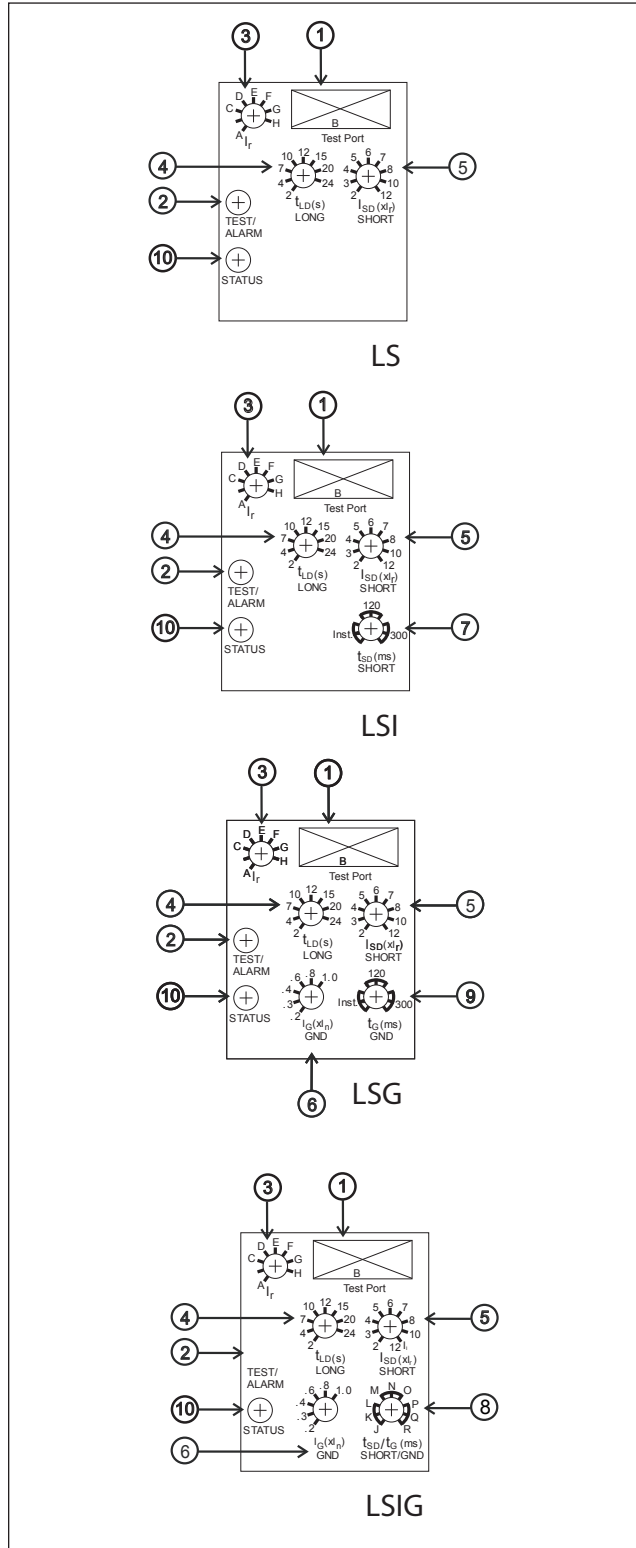

Figure 6. Trip Unit Settings for FDE 310+.
A. 310+ Trip unit controls and settings (refer to Figures 6 and 7)